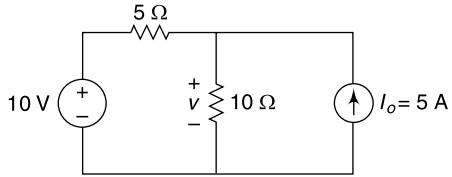

Fig. 4.201
40. Find v by superposition theorem (Fig. 4.201).